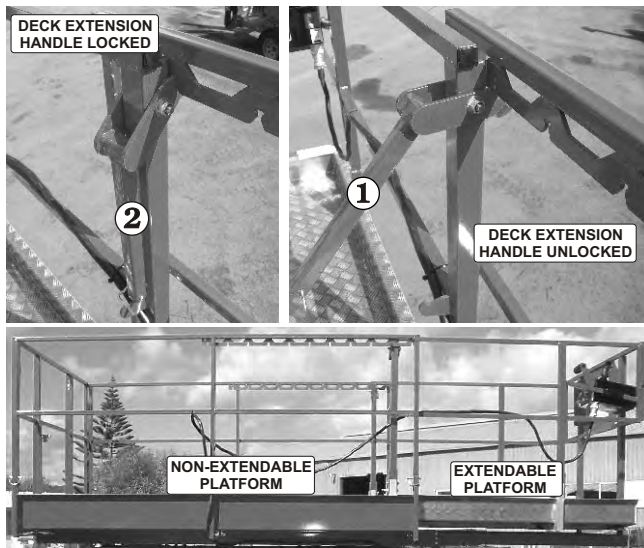

Figure 8.26
The MULTI-position extendible platform (see Figure 8.26) can be securely locked into different positions. To move it from one (1) position to the other do the following:
2. Lift up the deck extension handles (one (1) for each side of the deck) ❶ to unlock the deck (see Figure 8.26).
4. Lower the deck extension handles and allow the lock ❷ to locate (see Figure 8.26).